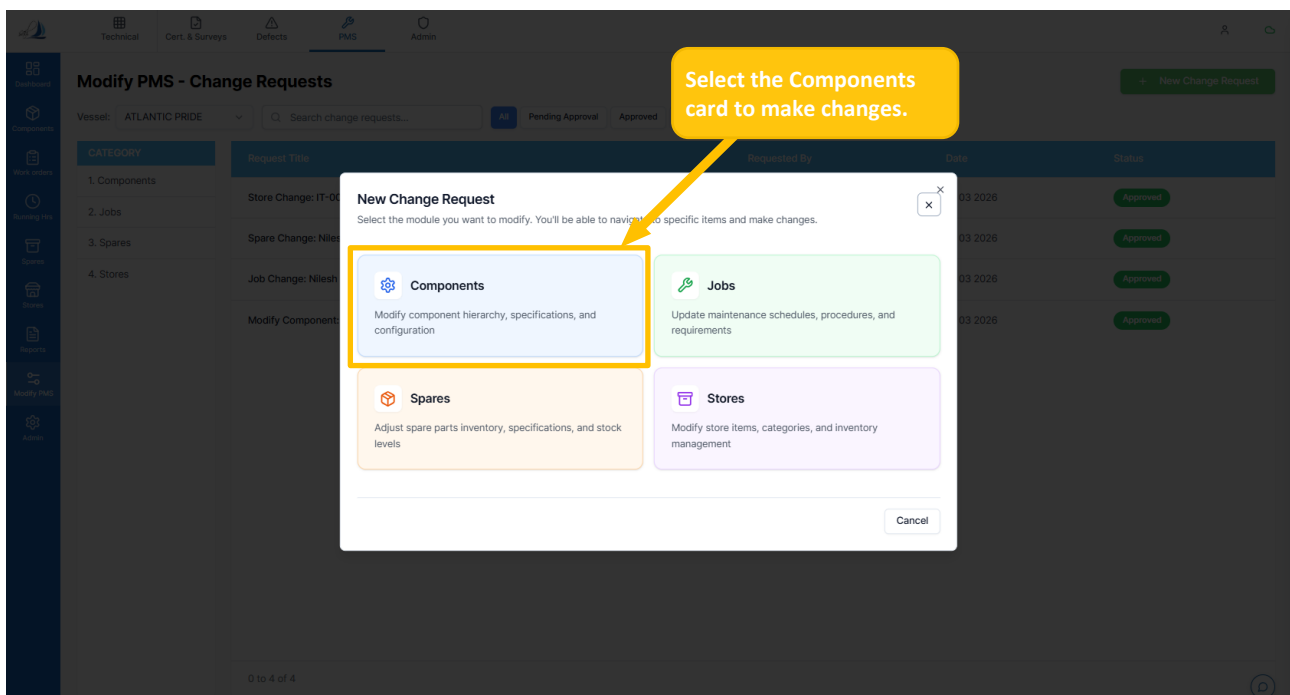

Figure 71
- The screen below appears after clicking the '+ New Change Request'. (Ref Figure 71)
- Select the 'Components' card to change or modify. (Ref Figure 71)